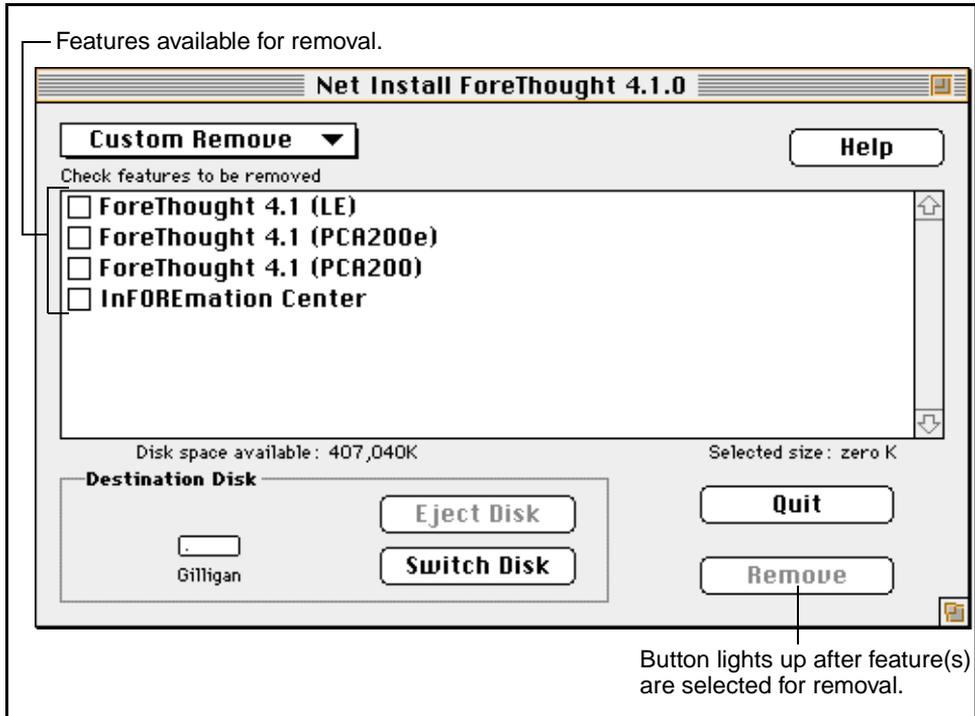

Figure 3.10 - Install FORE Software Window - Custom Remove Mode
3. Highlight Custom Remove and release the mouse button. The Install FORE Software window appears in Custom Remove mode (Figure 3.10).